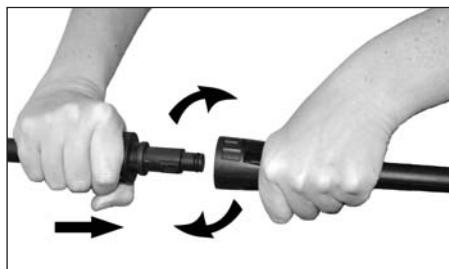

Figure 4 - Attach lance to gun.
3. Attach lance to gun, twist and lock. Attach nozzle or detergent bottle to lance by pressing the Easy Connect button and inserting into Quick Connect on lance. (see Figures 4 & 5)